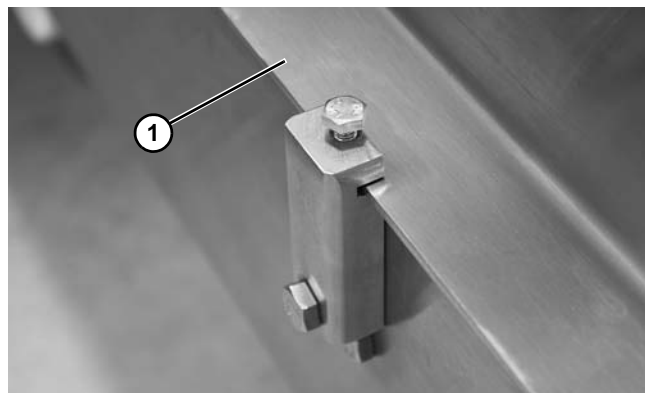

Figure 40
1. Remove guides (Figure 40, item 1) when required.